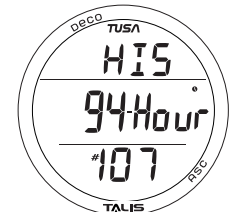

Fig. 52 - HISTORY 1
**History 1**, information includes (Fig. 52):